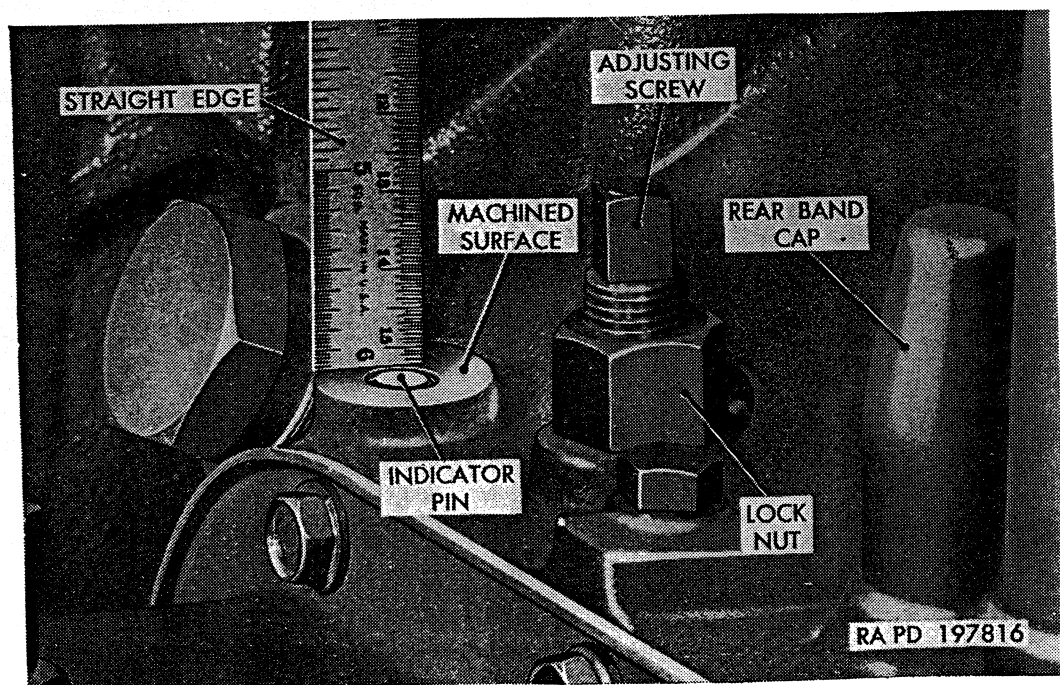

Figure 192. Checking position of indicator pin.
- (6) Unscrew indicator pin plug (B, fig. 191). Indicator pin should be flush ( $\pm \frac{1}{64}$  inch) with machined surface of transmission case. Use straightedge to check pin position (fig. 192).
- (2) Turn adjusting screw (C, fig. 191) until pin is **EXACTLY FLUSH** with machined surface of transmission case. Use straightedge (fig. 192) to check adjustment.
- (4) Use a straightedge (fig. 192) to recheck indicator pin position to **EXACTLY FLUSH** with machined surface of transmission case.